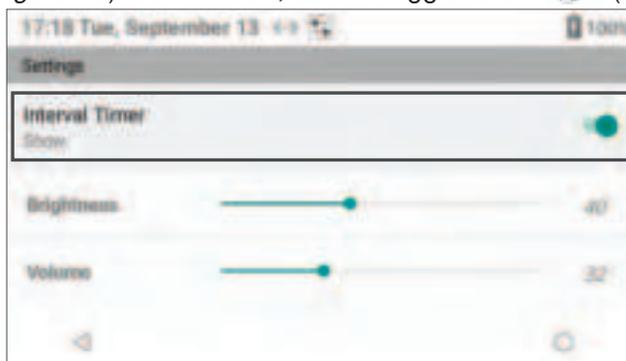

Figure 16: Interval Timer – Show
- If **Show** (Show) and  (Toggle On) are displayed, the Interval Timer will be displayed during patient tests (*Figure 16*). To turn it off, set the toggle to **Off**  (Toggle Off).